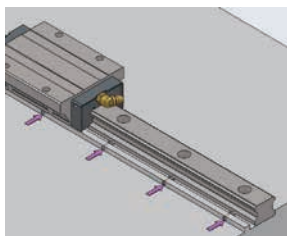

Fig. 4 Tightening set screws
(C) Tighten the linear guide rail set screws in sequence, until they lightly contact the rail-mounting side surface.(Fig. 4)